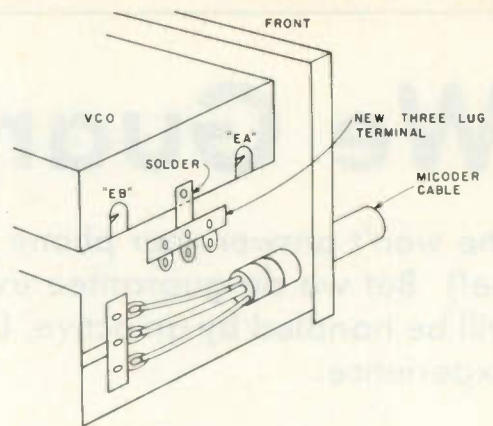

Fig. 2.
1. Use a three-lug terminal with a center terminal ground with an oscillator mounting strap and secure it to the longer side of the vco assembly so that the terminal lug is under the vco box. Use solder (see page 108 of the HW-2036 assembly instructions). The terminal should be mounted between the EB and EA solder lugs (see Fig. 2).